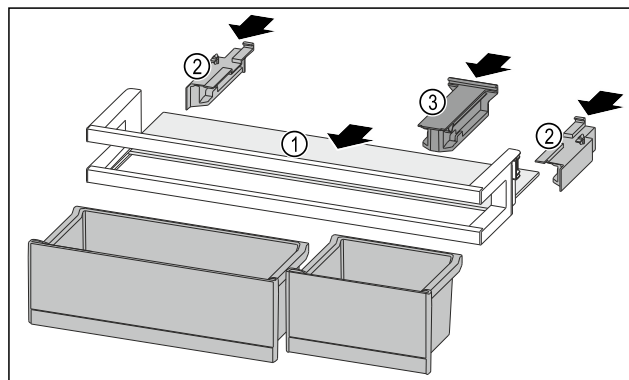

Fig. 215
- Push the shelf Fig. 215 (1) into the side recesses.
- Insert the side parts Fig. 215 (2).
- Insert the holding part Fig. 215 (3).